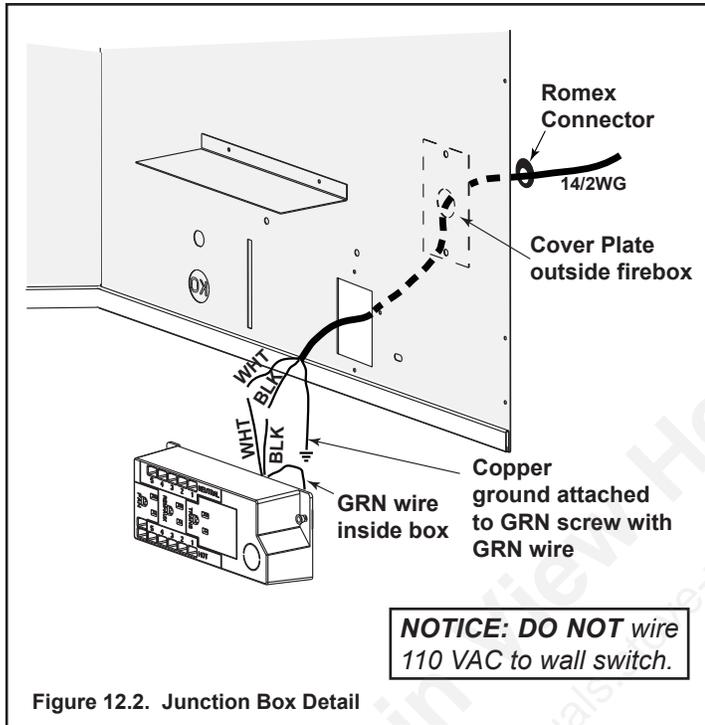

Figure 12.2. Junction Box Detail
- Remove the screw attaching the junction box/receptacle to the outer shell, rotate the junction box inward to disengage it from the outer shell. See Figure 12.2.
- Pull the electrical wires from outside the appliance through the opening into the valve compartment and secure wires with a Romex connector. See Figure 12.2.